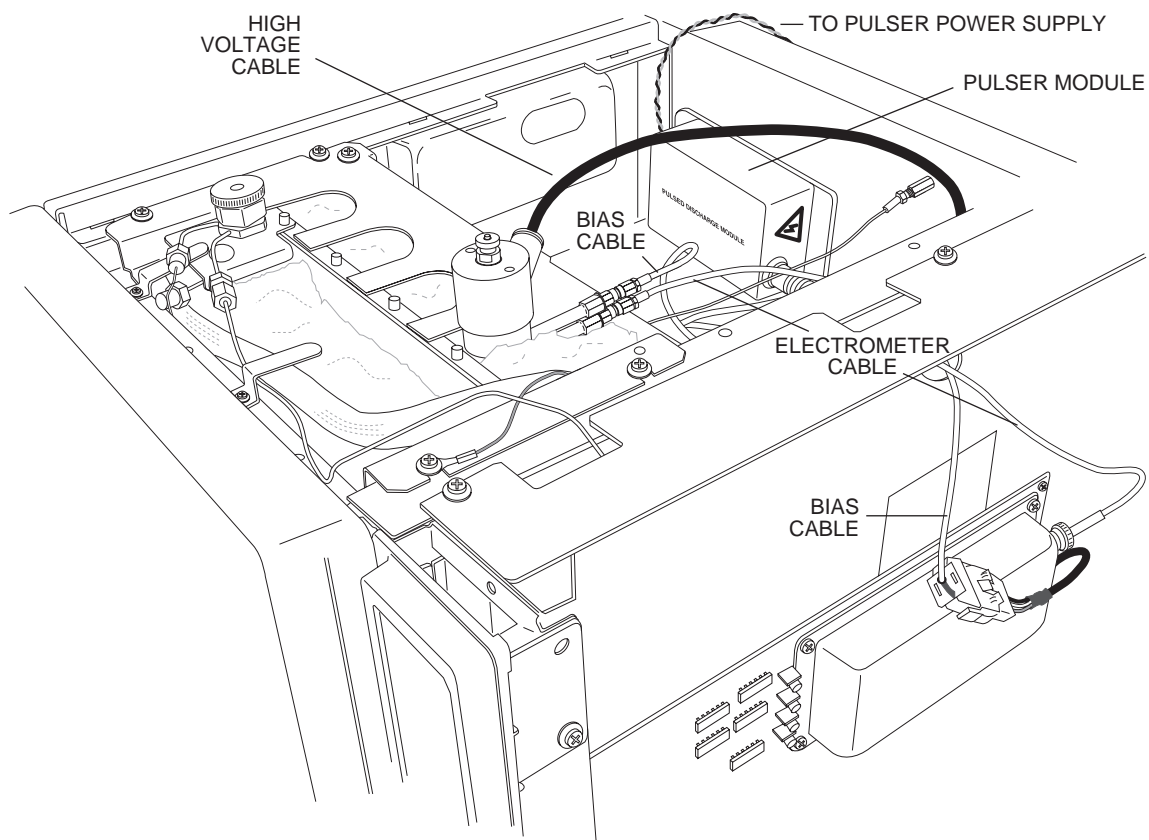

Figure 5: Mounting the pulser module
1. Mount the pulser module as shown above in **Figure 5**.
1. Referring to **Figures 5** and **6** as necessary, connect the **BIAS** cable to the top electrode and the electrometer cable (**ELECT**) to the bottom electrode.